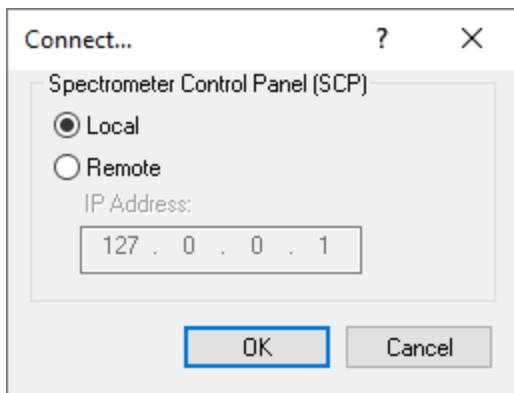

Figure 96: The Connect... dialog
- **Go On-line...** will display the **Connect...** dialog (Figure 96) on which you will be asked to supply the Chirascan **IP Address**. It is used when Chirascan Viewer has been started as a stand-alone program and you want subsequently to establish a link with the SCP[67]. If the two programs are running on the